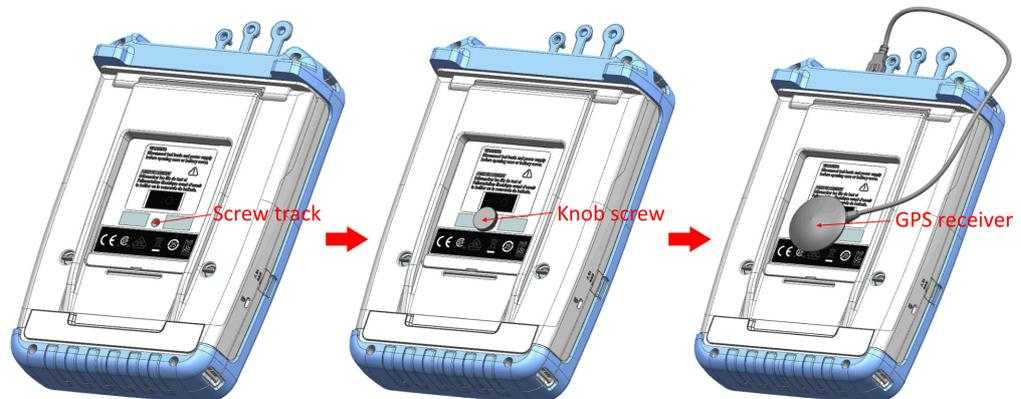

Figure 3-7: Location of GPS receiver
- The GPS receiver can be conveniently attached to the knob screw as shown in Figure 3-7.